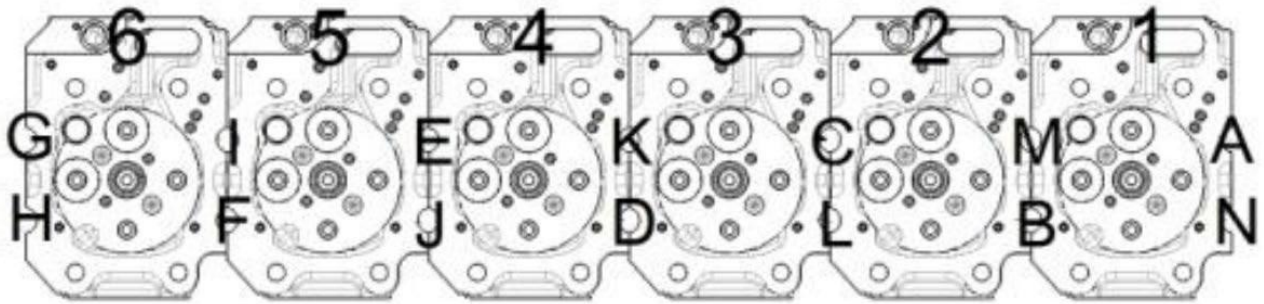

Figure 75. Secondary Bolt Torquing Order
5. Tighten the secondary bolts in order (Figure 75) A through N to a torque of 80N·m.